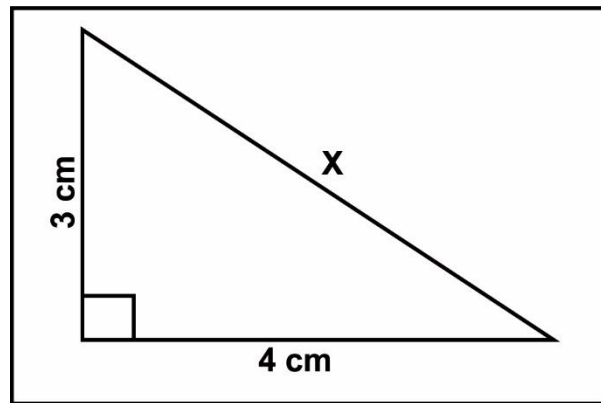

FIGURE 4.13
- (1)
4.13 Calculate the value of **X** as indicated in Figure 4.13.